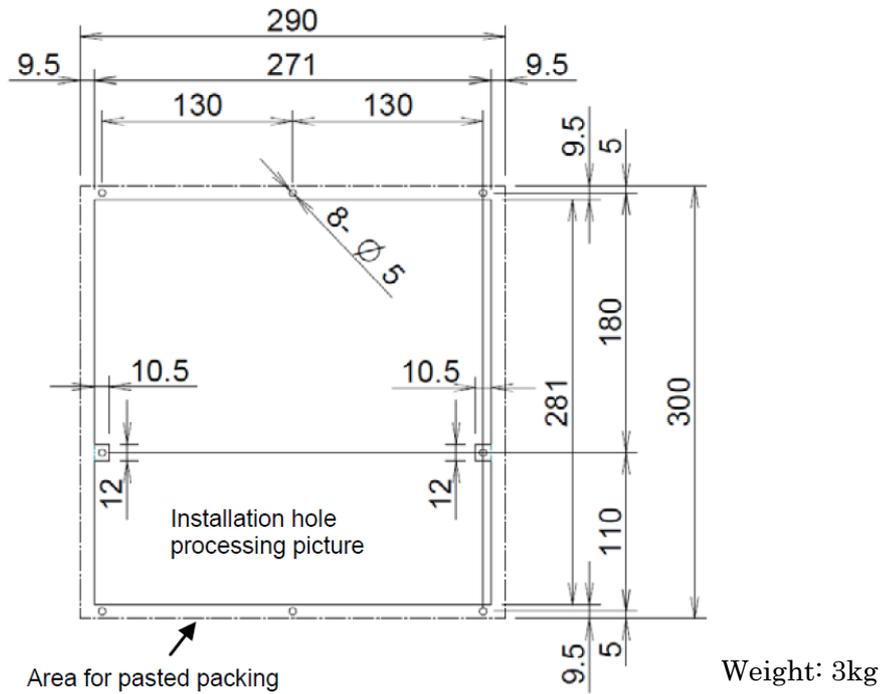

Fig. U14 10.4" color LCD/MDI vertical (04)
10.4" color LCD/MDI vertical	Fig. U14